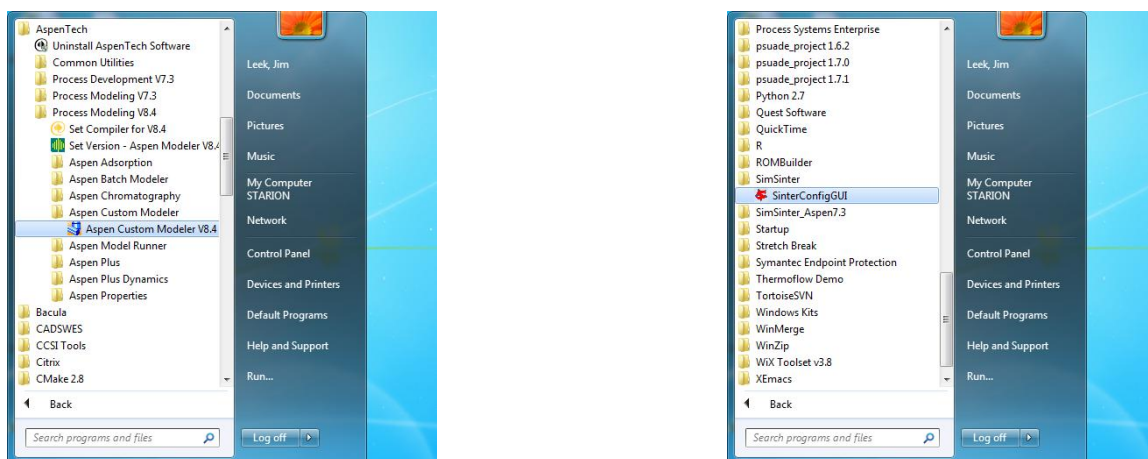

Figure 1: Checking for both ACM 8.4 and SimSinter
1. Choose a simulation to open, and make sure you have the correct simulator installed. For example, I will be using the Aspen Custom Modeler simulation included with the SimSinter install. So I should make sure that I have both Aspen Custom Modeler installed, and SimSinter, as shown in Figure 1.
2. Open SinterConfigGUI by selecting it from the start menu, as in Figure 1.